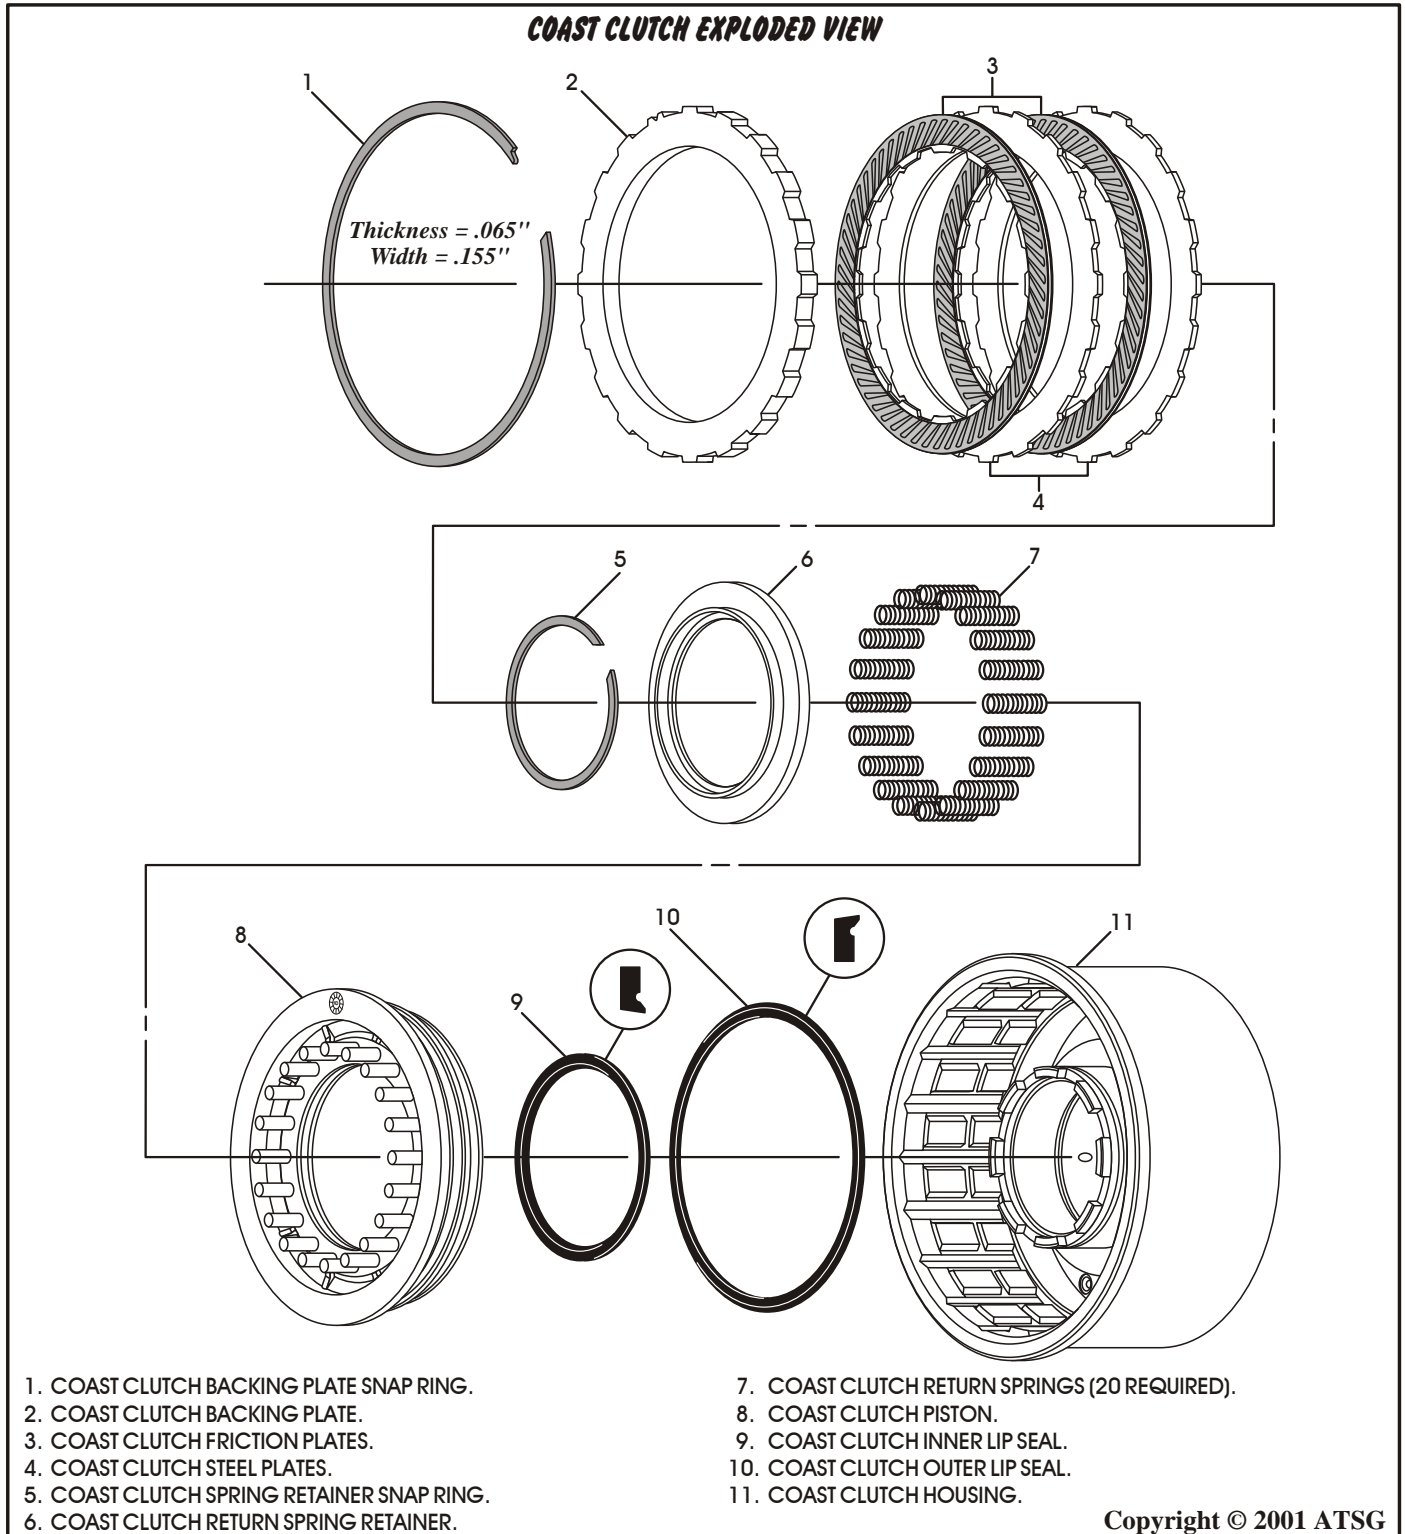

Figure 63
1. Disassemble the coast clutch assembly using the illustrations in Figure 63 as a guide.
2. Remove and discard the coast clutch lip seals, as shown in Figure 63.